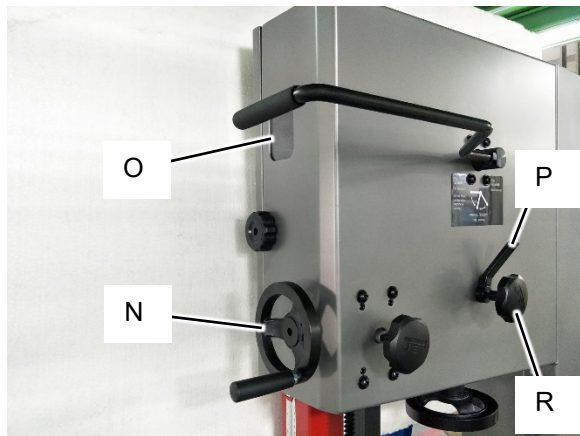

Figure 7-12
Refer to Figures 7-12 and 7-13.
3. Make sure blade guides and other parts of machine will not interfere with blade movement. Use handwheel (N) to lower guide post until you can see blade through tracking window (O, Figure 7-12).
8. Loosen locking handle (P, Figure 7-12) and slightly rotate tracking knob (R) with your right hand while continuing to rotate wheel with your left. Observe blade through tracking window. Rotating knob clockwise will cause blade to move toward rear edge of wheel. Rotating knob counterclockwise will cause blade to move toward front edge of wheel.